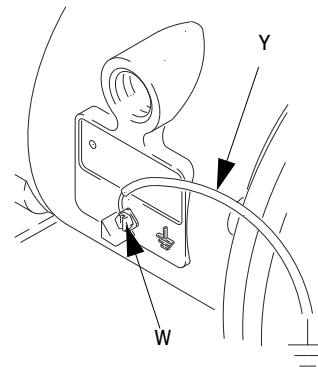

FIG. 1
- **Pump:** Connect a ground wire and clamp as shown in Fig. 1. Loosen the grounding screw (W). Insert one end of a 12 ga (1.5 mm²) minimum ground wire (Y) behind the grounding screw and tighten the screw securely. Connect the clamp end of the ground wire to a true earth ground. Order Part No. 238909 Ground Wire and Clamp.